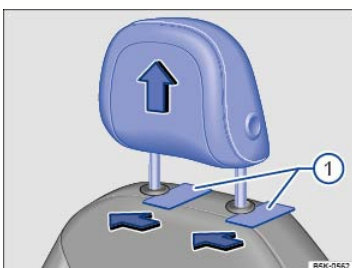

Fig. 75 Removing the front head restraints.
- Slide a flat object, such as a plastic credit card, underneath the right side of the cap (left side if sitting behind the head restraint) on the right-hand seat guide rod ⇒ Fig. 75① to unlock the head restraint.